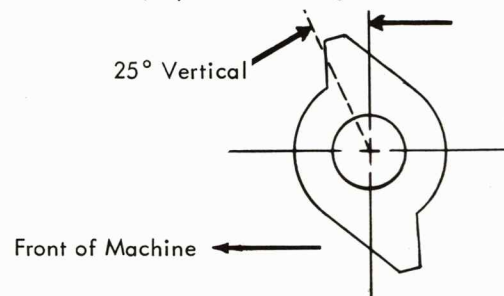

FIGURE 46. Filter Shaft
5. Filter Shaft - The filter shaft is set during manufacture at approximately 25° (Fig. 46). This adjustment is not critical. When the relationship of the filter shaft gear has been changed set the filter shaft for proper escapement cam timing. Be sure and check the shift interlock cam adjustment also.